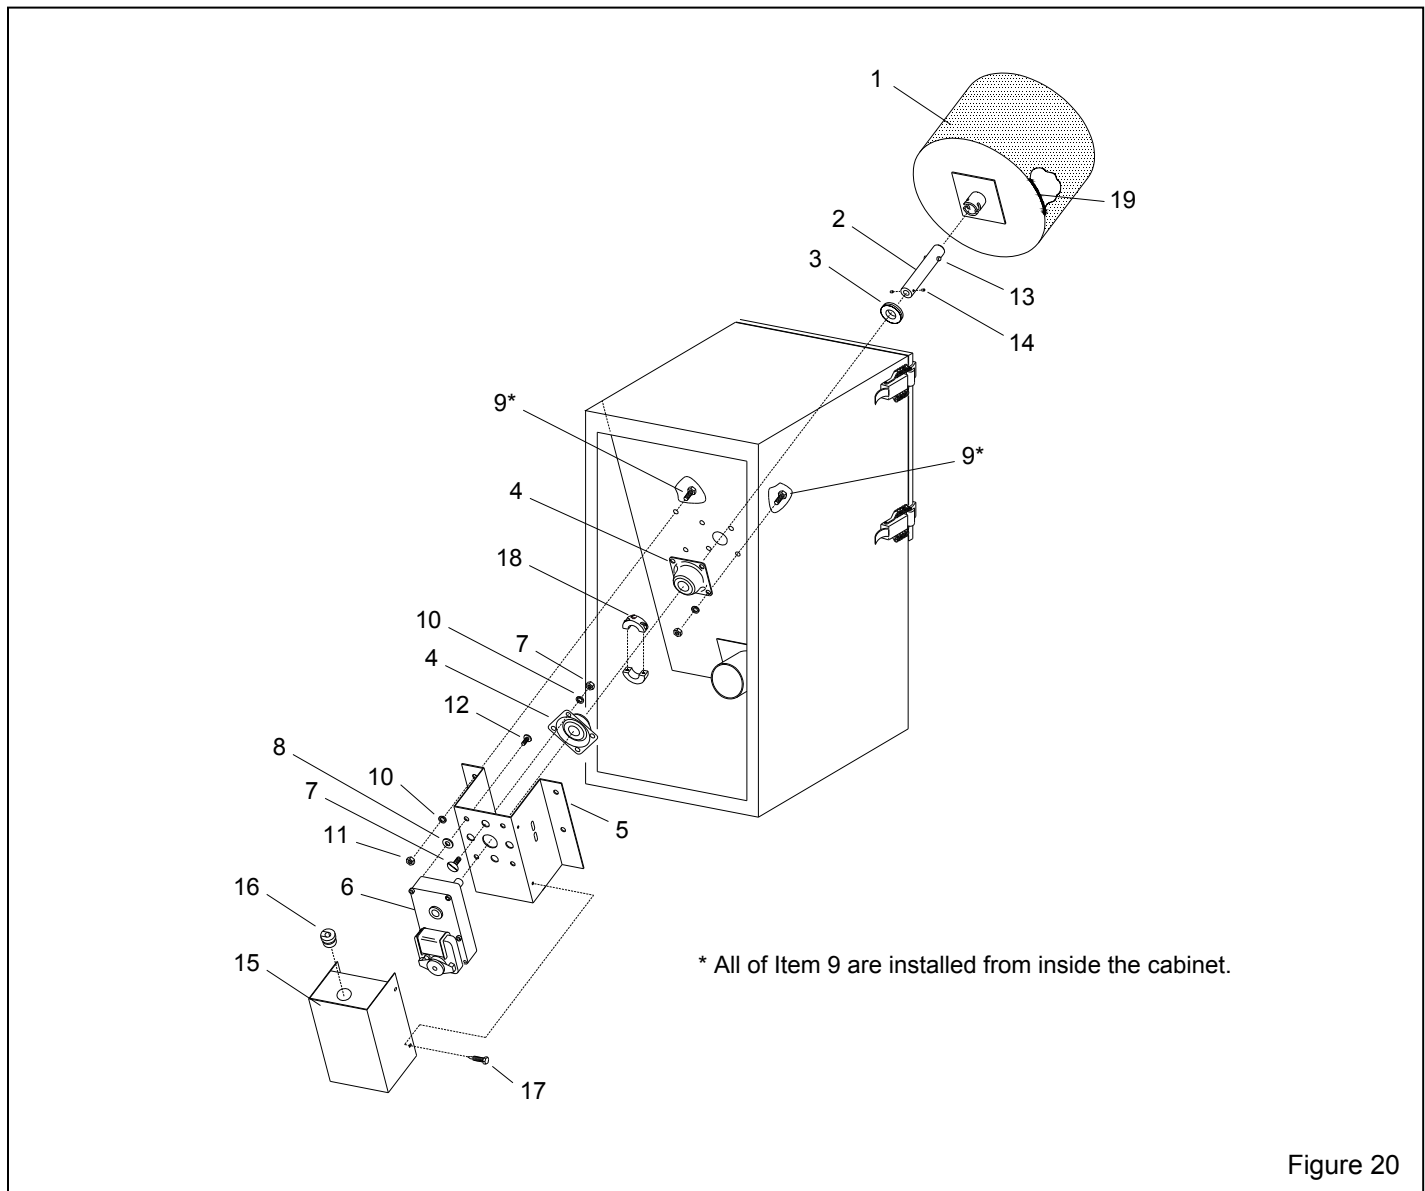

Figure 20
8.3 Basket and Drive Assembly – Figure 20